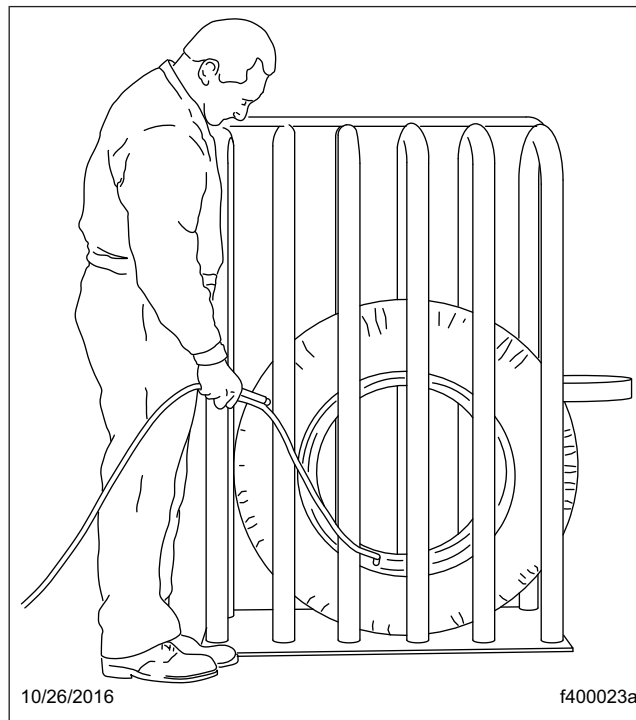

Fig. 12, Safety Cage for Tire Inflation
2. Place the tire in a safety cage, or an approved portable restraining device. See Fig. 12.